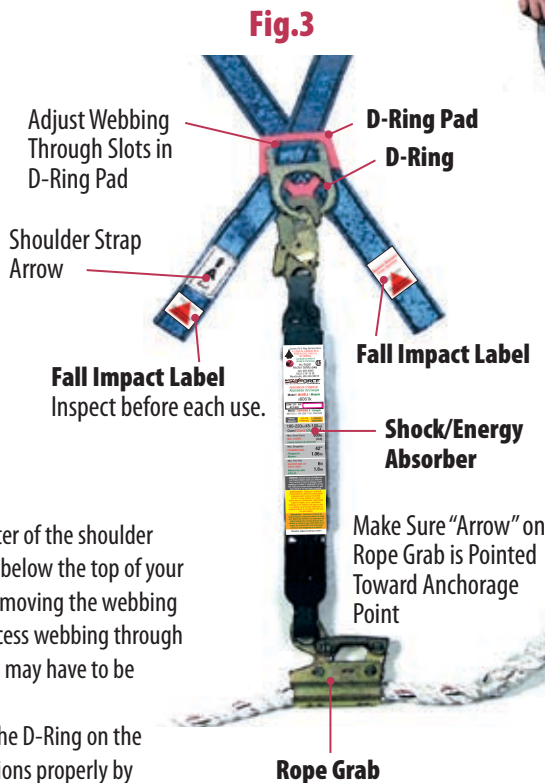

Fig.3
Hold the harness by the metal D-Ring. Unbuckle the chest strap and leg strap friction buckles. Remove any twists in the webbing. Insert arms through the shoulder straps so the D-Ring is on your back and the arrow indicator on the shoulder strap, shown at Fig.3, is pointing up toward your head. Leg straps should be hanging down with no twists or tangles. Adjusting for personal fit may require the harness to be put on and taken off a few times.
3. The D-Ring on harness back should position about the center of the shoulder blades as shown at Fig.2. Position the D-Ring pad at least 4" below the top of your shoulders but no more than 6". Adjust the D-Ring location by moving the webbing through the slots in the D-Ring pad (Fig.3) and taking up excess webbing through the leg strap friction buckles (Fig.1). The chest strap position may have to be adjusted after moving the D-Ring pad.
4. Connect shock absorber as shown at Fig.3 to the back of the D-Ring on the harness with the Snap-hook. Make sure the Snap-hook functions properly by following instruction in Section 5-B.